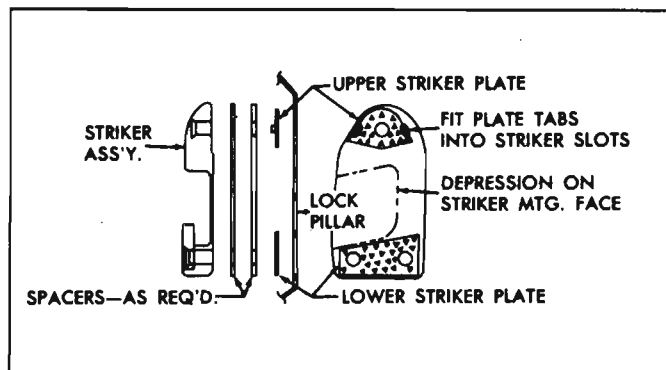

Fig. 10-40a—Location of Striker Plates
3. Position the upper plate so the two tabs project into the two slots in the rear face of the striker assembly. This prevents the plate from rotating during assembly. Also position the lower plate so the plate outline matches the depression on the striker assembly mounting face (fig. 10-40a).